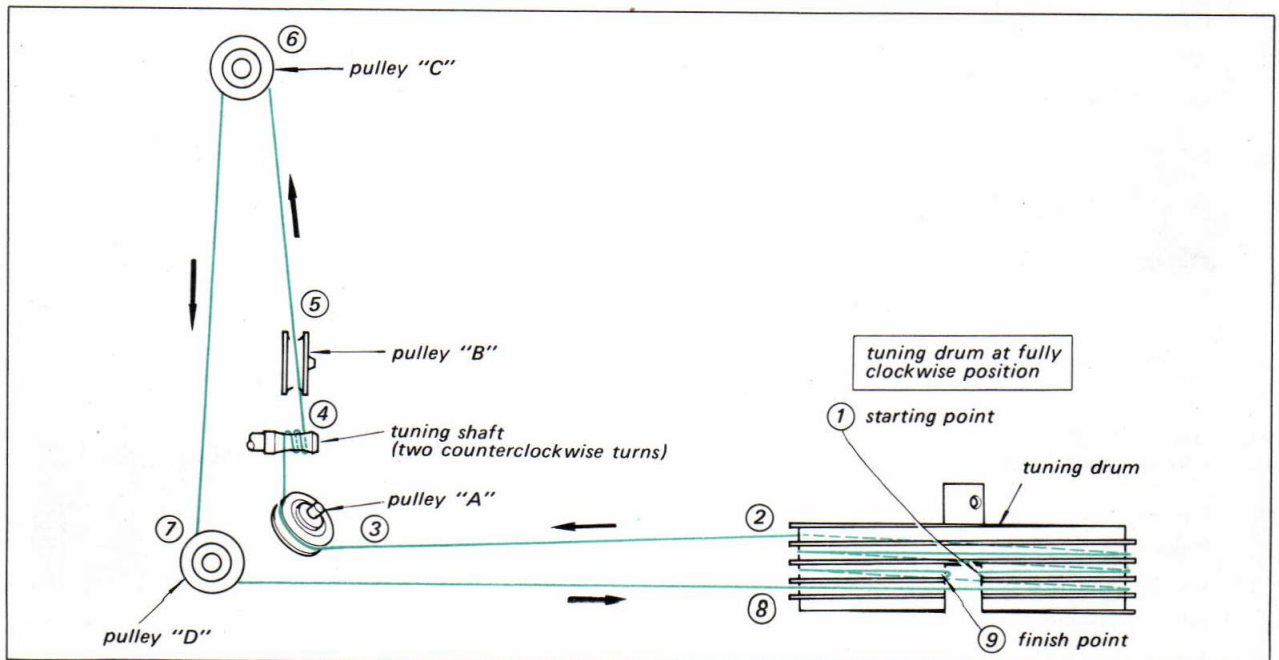

Fig. 2-7. Dial cord stringing
2. Wrap the dial cord one and half turns around the drum and string the dial cord in order as shown in Fig. 2-7.